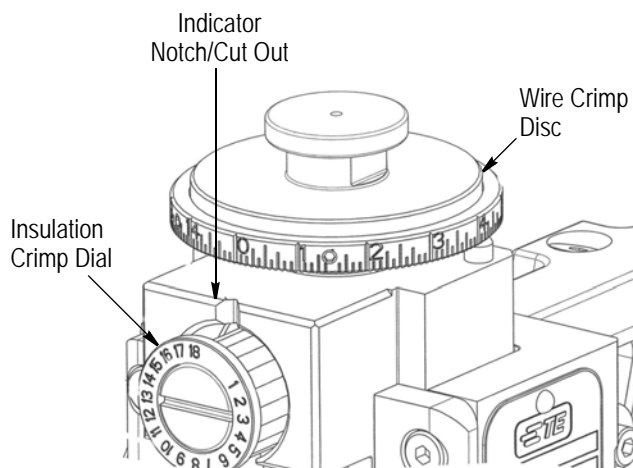

Figure 8
3. Turn the wire crimp disc to line up with the specified increment number with the indicator notch/cut out on the front of the ram. This provides the right crimp height for that wire. See Figure 8.